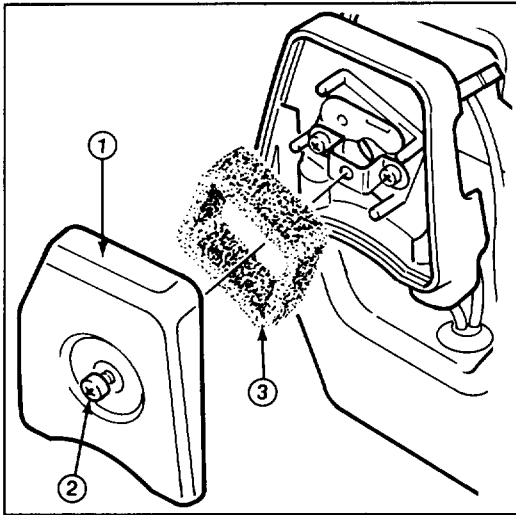

Figure 17
SERVICING AIR CLEANER (Fig. 17)
5. Reinstall air cleaner components as shown in Figure 17.